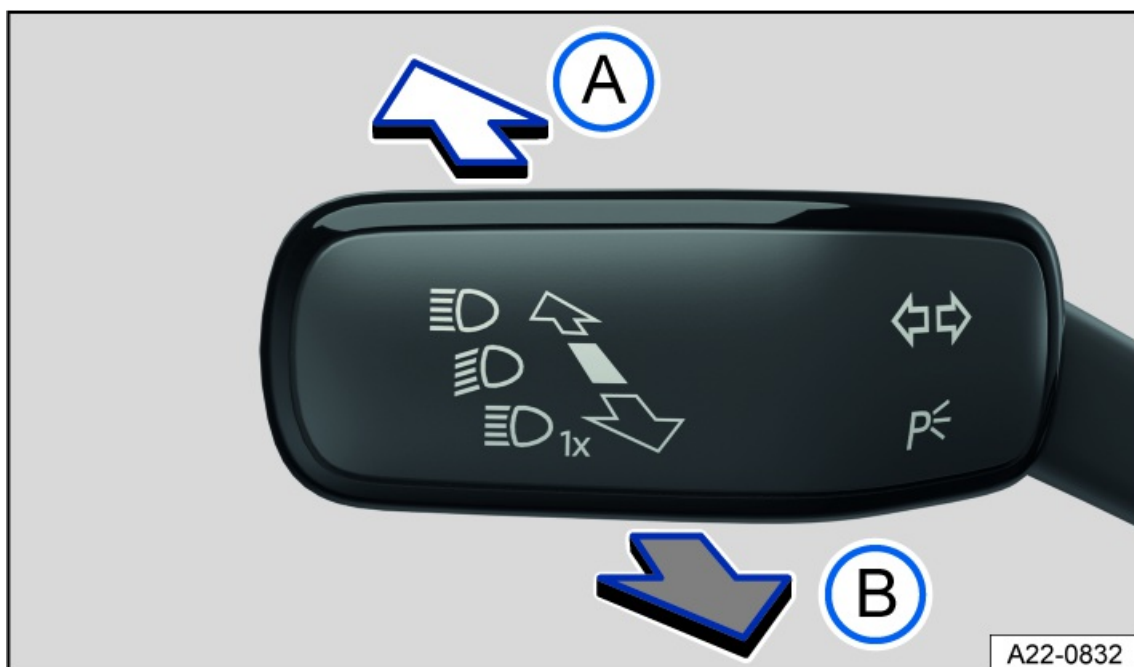

Fig. 82 On the left side of the steering column: turn signal and high beam lever.
3. Tap the lever forwards out of the basic position *fig. 82*.
- *Increase sensitivity:* push the lever forwards out of the starting position and hold it in place for approx. 15 seconds *fig. 82*.
- *Reset sensitivity to standard setting:* push the lever forwards out of the starting position and hold it in place for approx. 15 seconds *fig. 82*.
Or: if high beam control (Light Assist) is switched on and active, pull the lever backwards *fig. 82*.
Or: if high beam control (Light Assist) is switched on and is not active, press the lever forwards *fig. 82*. The manual high beam headlights are now switched on. To switch off the manual high beam if necessary, pull the lever backwards ⓘ B.